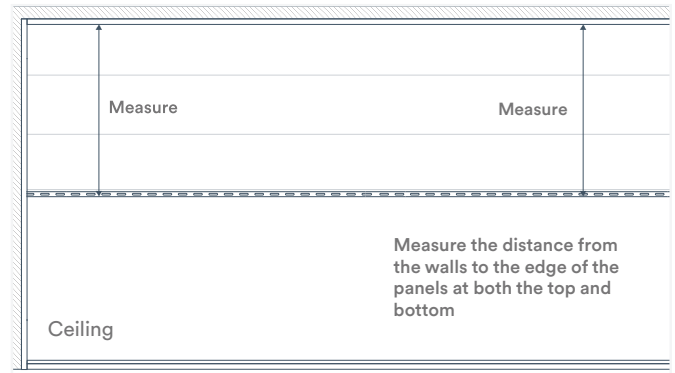

Fig. 22
7. Periodically check your installation to ensure the panels continue to be installed in straight, even rows. To do this, measure the distance from the wall to the edge of your panels at both ends of the panel. If both measurements are identical, the installation is adequately aligned. If the measurements are uneven, you will need to correct the positioning of your board (Fig. 22).